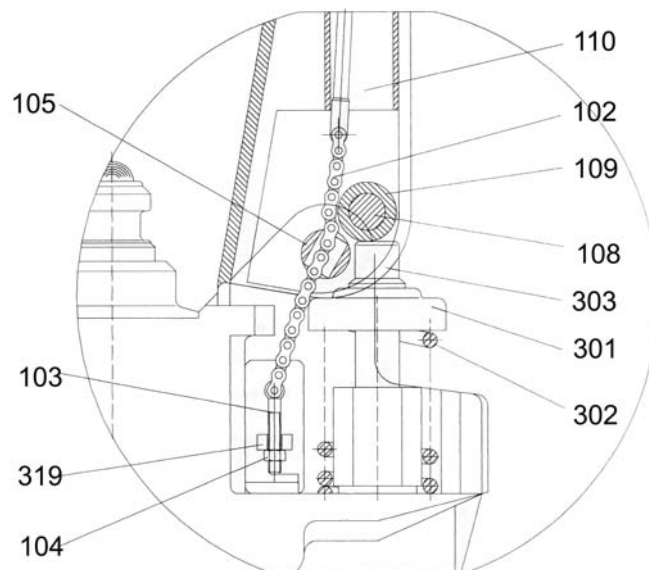

Fig. 3
2.2 Let control handle(117S) to the '**LOWER**' position, then pass the adjusting nut(104S), adjusting bolt(103S) and chain(102S) through the hole of axle(105S) with your hand (See fig. 3).